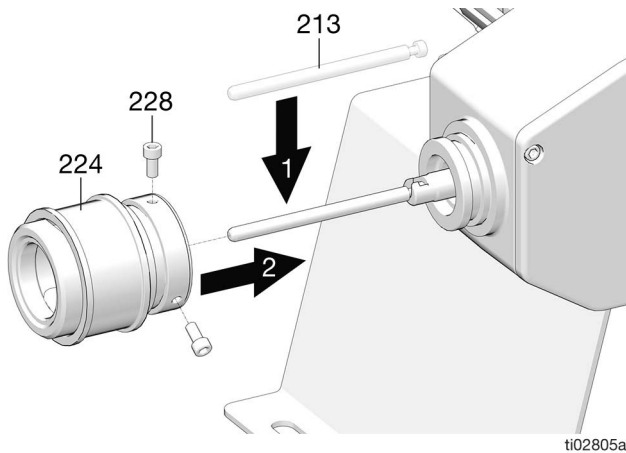

FIG. 24
1. Reconnect the fluid module plunger (213) to the drive module (3a) (FIG. 24).
2. Replace the plunger (213) into the drive module (FIG. 24).